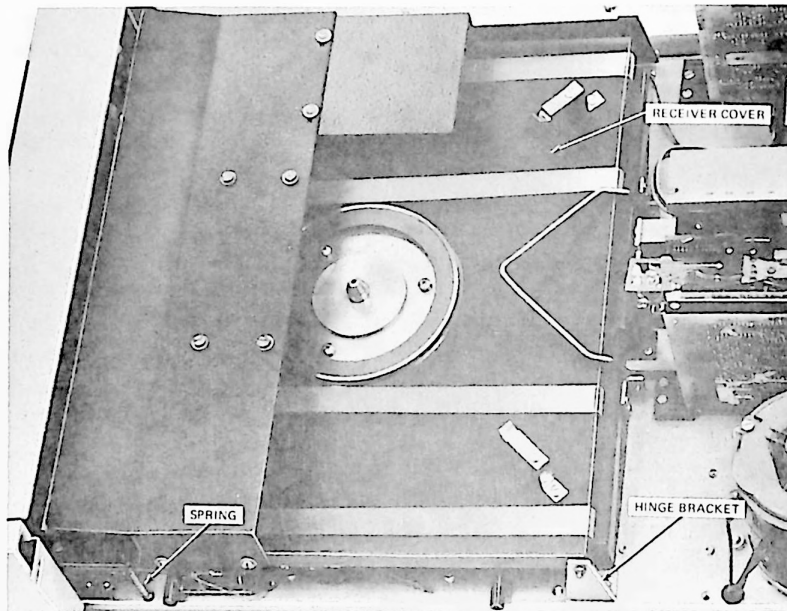

Figure 3-31. Fixed Disc Removal; Receiver Cover
- a. With receiver handle in the up position, remove two springs holding receiver assembly (figure 3-31).
- f. Remove latch linkage from fixed disc cover assembly (figure 3-31).